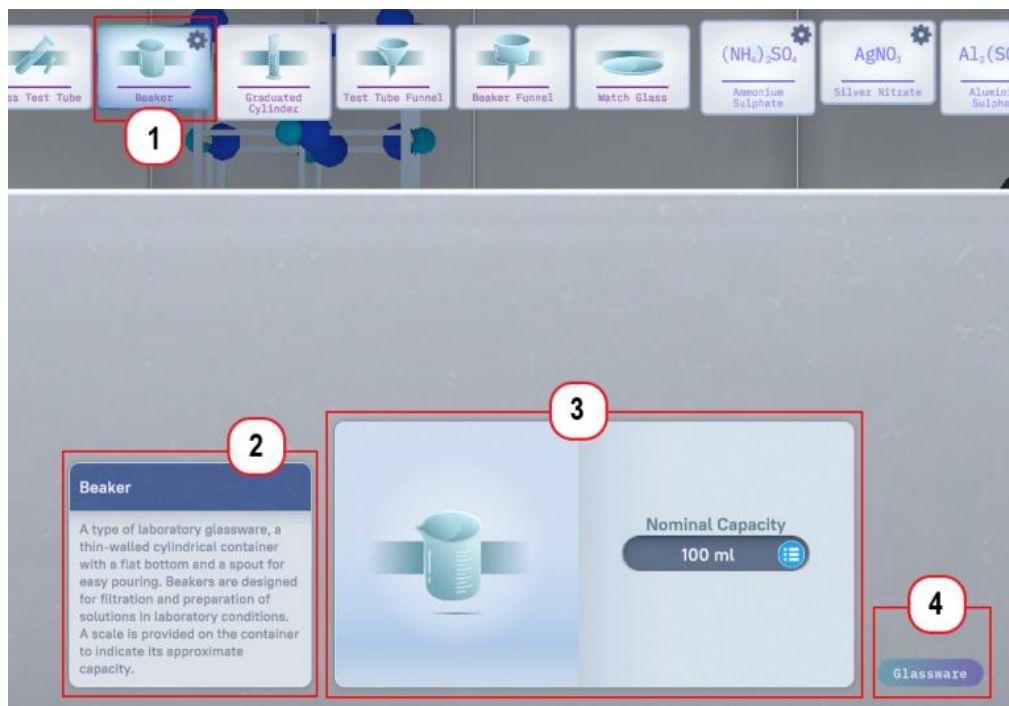

Figure 25 – Activating an Object card
Clicking on an **Object Card** (Figure 25) opens an **Info** panel with a description of the selected object (2), and if the object has an associated constructor, the **Constructor** panel (3) as well (see 6.2 Object Constructor). To the right of the constructor panel is a list of keywords for the selected object (4).
- 1) If it's necessary to adjust the parameters of the object being created, click on its card. An **Info** panel and the **Constructor** panel will appear on the screen (Figure 25). Set the parameter values in the **Object Constructor** (Figure 26).